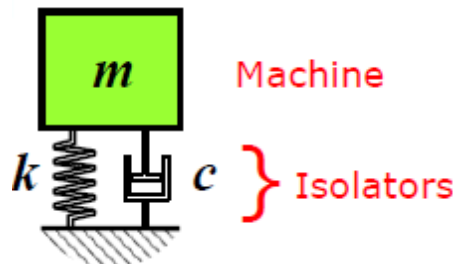

Figure 1. A vibration isolation system.
1. Derive the force transmissibility of the vibration isolation system shown in Figure 1, considering the vertical displacement of machine, $x(t)$. An applied vertical force, $p(t)$, is applied to the mass. For this system: